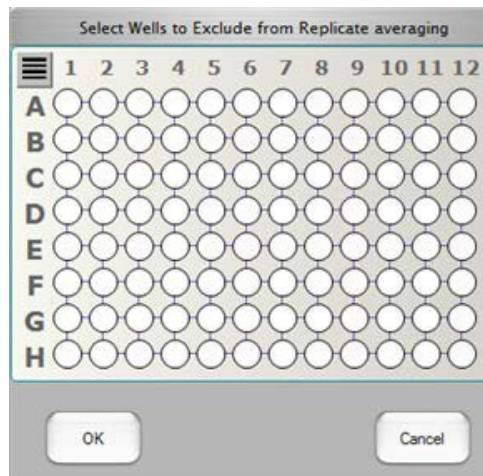

Figure 36. Select Wells to Exclude from the Replicate averaging
- To exclude a well from the replicate set due to an anomaly in the well, click the **Exclude Wells** button. The Select Wells to Exclude from Replicate averaging window opens (see Figure 36). Select the wells not to use in the statistical analysis. These wells appear in the report, but with strike-through values to indicate they are not included in the statistics.